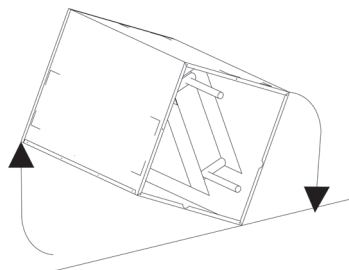

Fig. 05
- 3) Rotate entire unit 90 deg. clockwise. (Fig. 05)